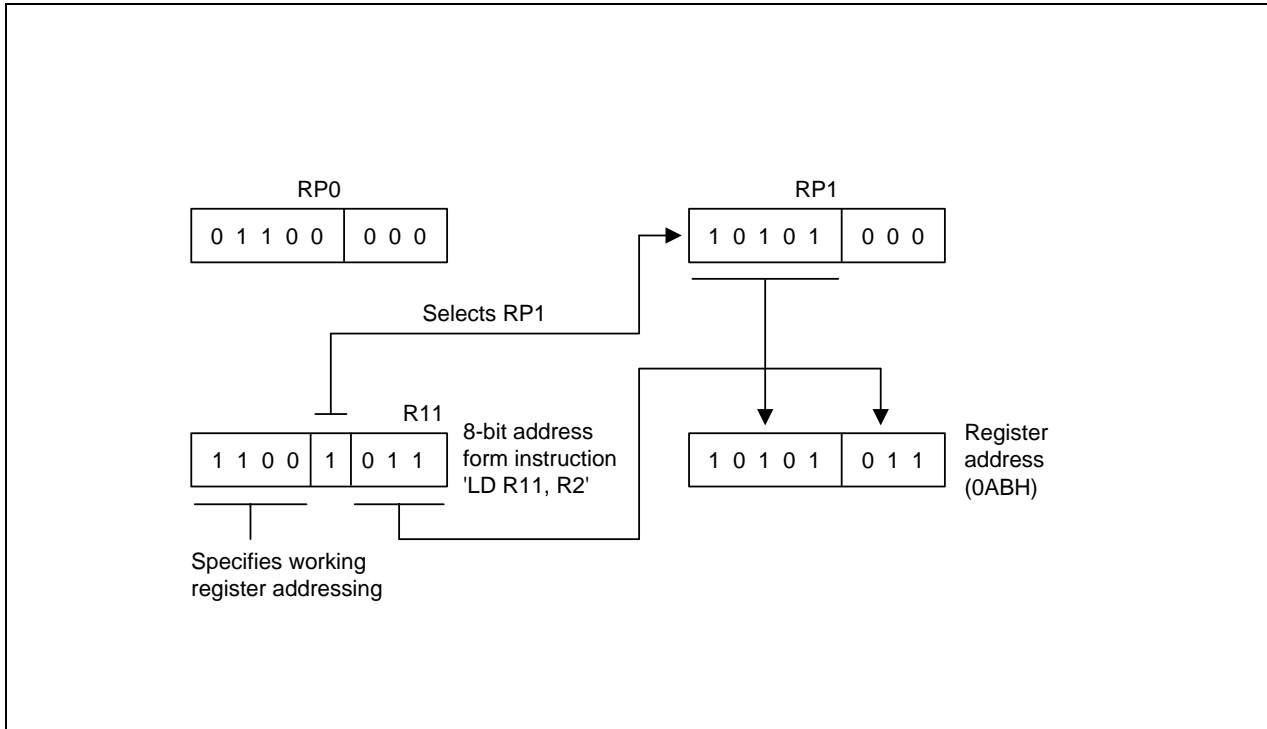

Figure 2-15. 8-Bit Working Register Addressing Example
Return addresses for procedure calls, interrupts, and data are stored on the stack. The contents of the PC are saved to stack by a CALL instruction and restored by the RET instruction. When an interrupt occurs, the contents of the PC and the FLAGS register are pushed to the stack. The IRET instruction then pops these values back to their original locations. The stack address value is always decreased by one before a push operation and increased by one *after* a pop operation. The stack pointer (SP) always points to the stack frame stored on the top of the stack, as shown in Figure 2-15.